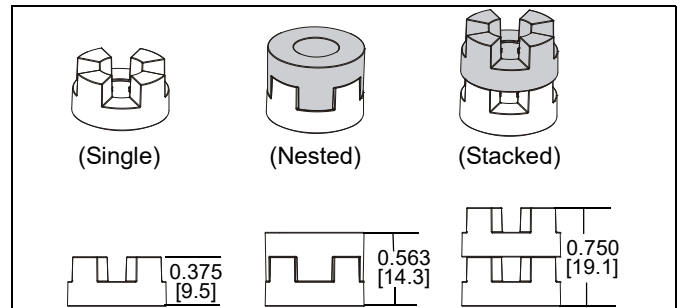

Figure 28
NOTE: The nesting spacers (AG) may be used separately, or put two together in different configurations to create different size spacers. (See Figure 28)